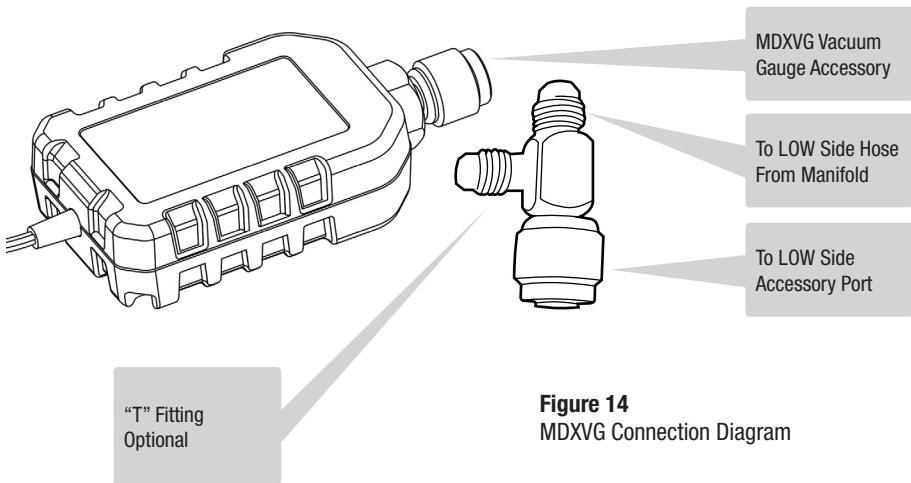

Figure 14
3. Properly connect the MDXVG with a "T" fitting directly to the AC system (FIG 14).